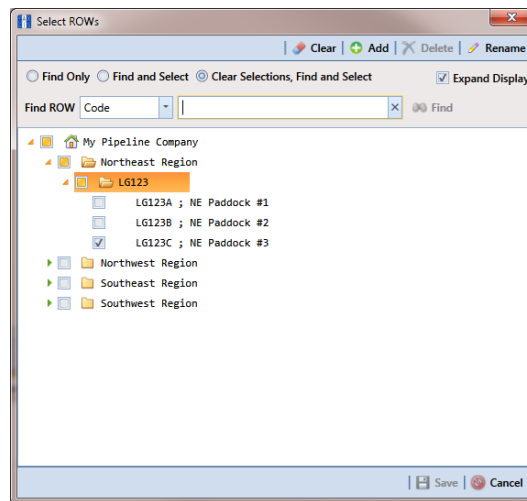

Figure 10-56. Select ROWs
- 1 Select one or more pipeline segments in the *Select ROWs* window. Select pipeline segment(s) with facilities you want to include in the Bullhorn Bridge definition. Click  **Save** to close the window (Figure 10-56).